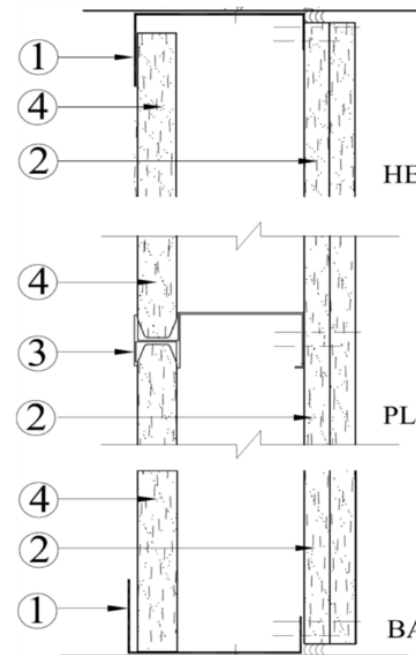

Figure 2 - Two Hour Cavity Shaft Wall (Non-Load Bearing)
Two-Hour Cavity Shaft Wall (Non-Load Bearing). See Figure 2
1. See Figure 2 and 3 for vertical stud installation details within shaft/stair wall.